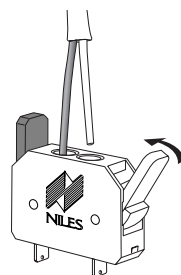

Figure 16 No-Strip Speaker Wire Terminal.
5. Insert one unstripped wire fully into the black and one into the red terminal. Pay attention to the markings on the wire. Each speaker must be connected to the amplifier in the same way. If unsure, see "Speaker Phase" located on the following page. Squeeze the red and black levers until they click signifying that they have locked into the wire. Check to make sure that the knife assembly inside the no strip connector has properly pierced the wire (**See Figure 16**).